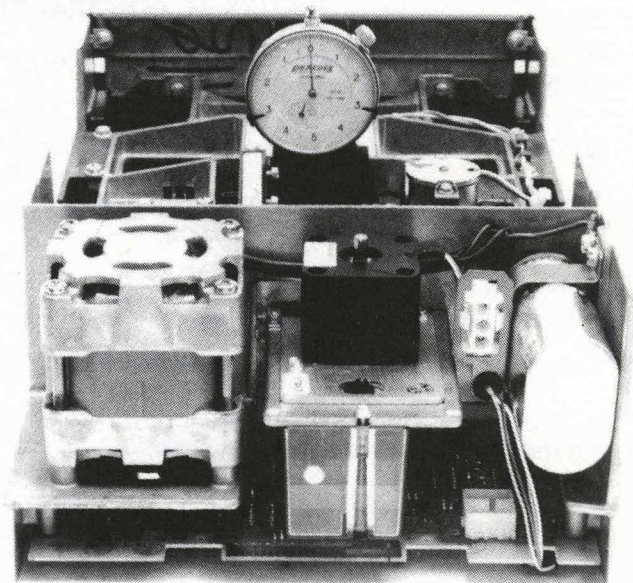

FIGURE 43. CORRECT PENETRATION
- f. Check the dial indicator for the proper setting. The long hand should be between +3 and -3 with the short hand pointing at three. If penetration setting is out of this range then continue with procedure starting at step g. See Figure 43.